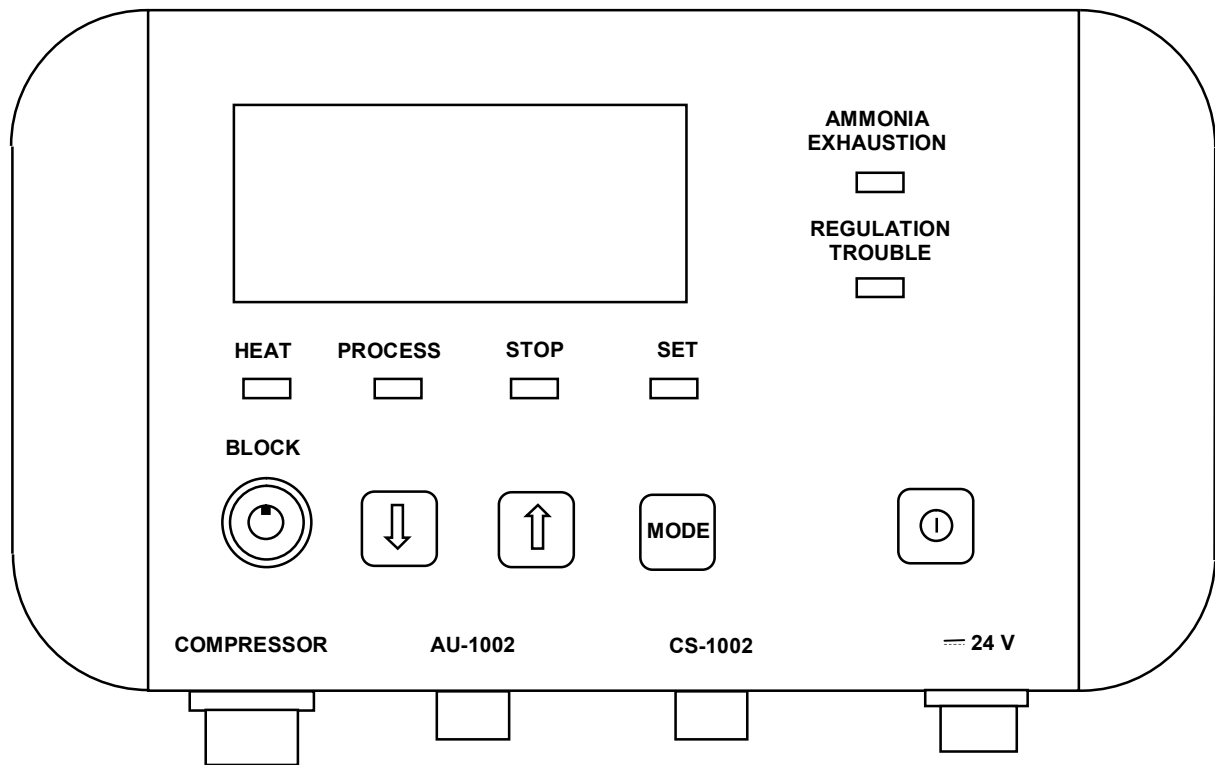

Fig. 1.6 – ABD controls and connections layout
*ABD controls and connections layout* is shown in Fig. 1.6.